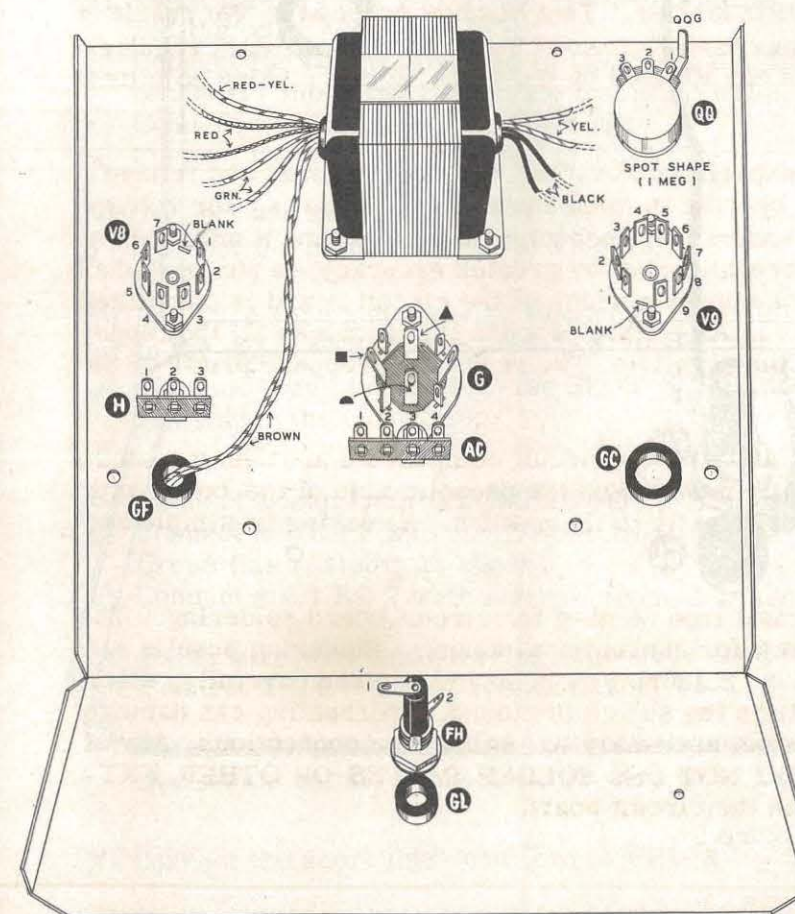
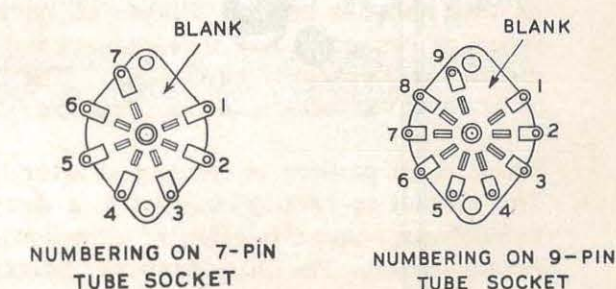

Figure 2
Figure 3
- (✓) Refer to Figure 2. Mount the 9-pin socket V9, using 3-48 hardware. Be sure the blank space is located as shown. (Figure 3 shows in detail how socket pins are numbered)
- (✓) Install the capacitor mounting wafer at G, using 6-32 screws, nuts and lockwashers. Mount a 4-lug terminal strip AC on one screw as shown. Install the larger filter capacitor. Observe carefully the insulator at the terminal end of the capacitor and notice that each terminal is identified by markings punched adjacent to the lug. Be sure these terminals are oriented as shown in Figure 2. Slip the four mounting lugs through the slots and hold the capacitor can firmly against the wafer. Now twist each of the four mounting lugs about 1/8 of a turn to secure the capacitor to the wafer.